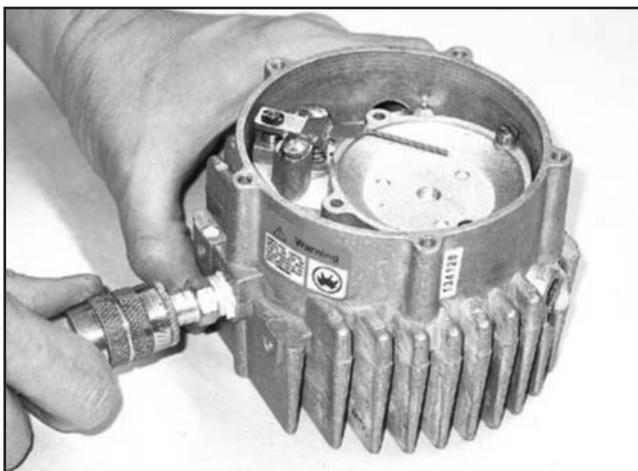

Figure 3-25. Attach Air Pressure Hose
13. Attach air pressure hose to the regulator fuel inlet with approximately 100 psi, ± 10 psi air pressure. See Figure 3-25.